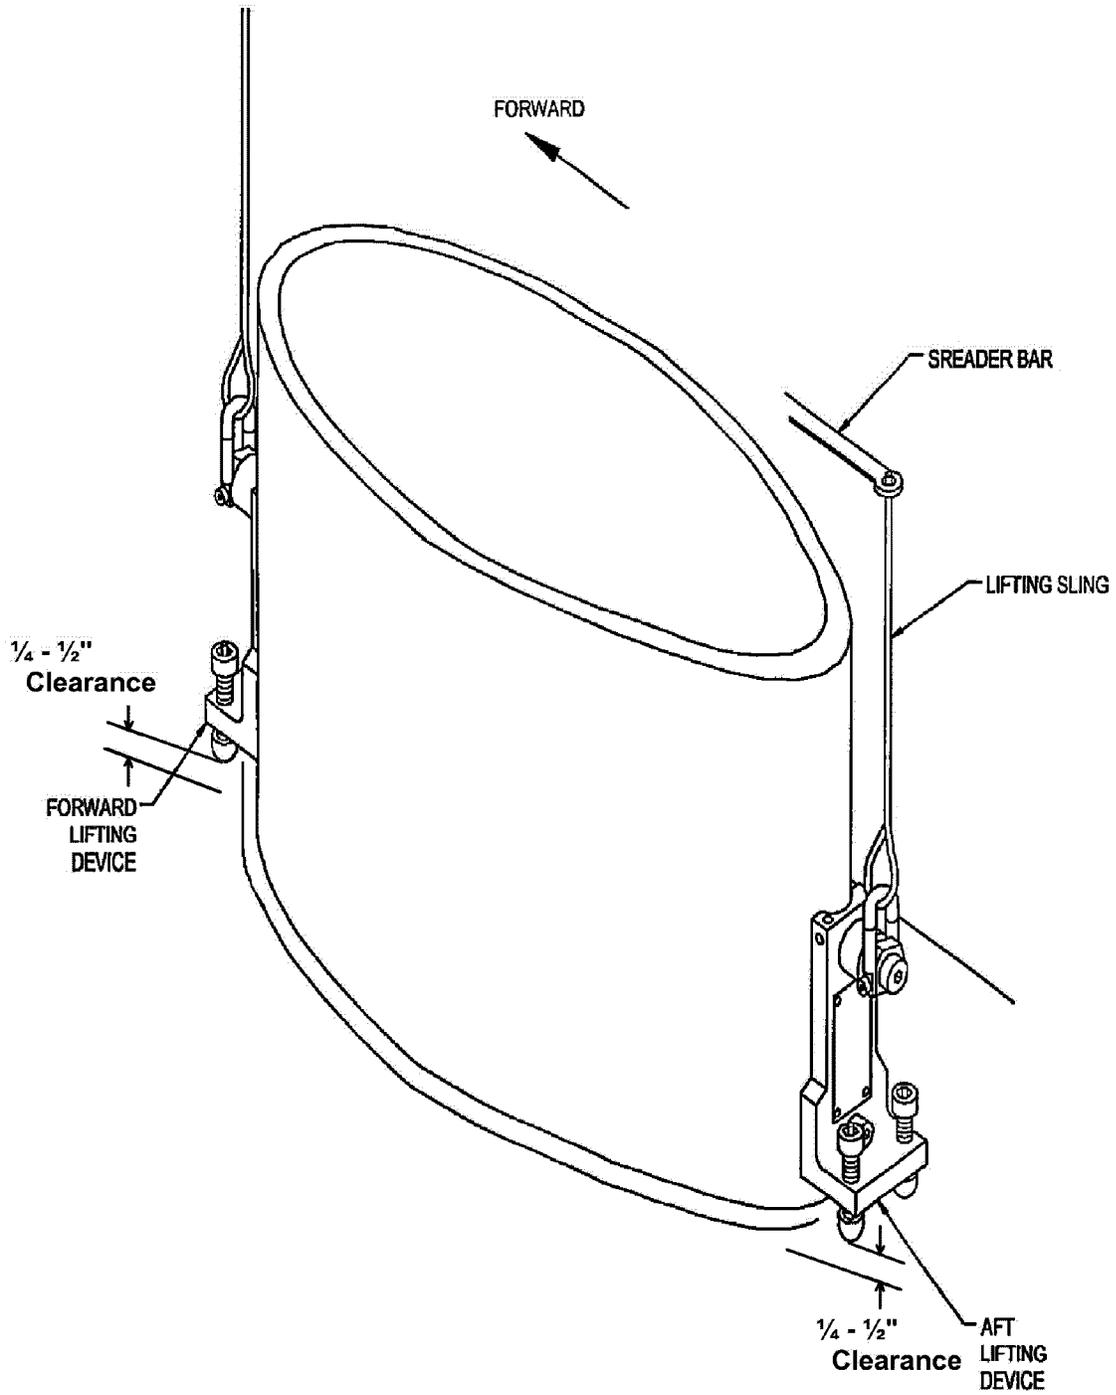

Figure 4-4 Installation of Lifting Devices
4.1.4.2 Installation of Lifting Devices. The method for the installation of the mast lifting devices is given below and is illustrated in Figure 4-4.
- e. For faired mast assemblies being lifted from the sail, adjust the contact screws on the FWD and AFT lifting devices so the contact bottoms have a 1/4 to 1/2-inch gap with the sail top. See Figure 4-4.